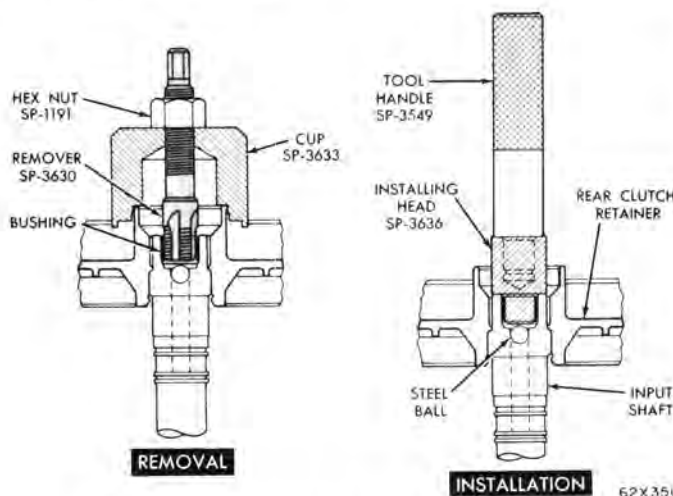

Fig. 101—Replacing Input Shaft Bushing
(1) Clamp the input shaft in a vise with soft jaws, being careful not to clamp on the seal ring lands or bearing journals.
(2) Assemble the remover Tool SP-3630, the cup Tool SP-3633, and the hex nut Tool SP-1191 (Fig. 101).
(3) With the cup held firmly against the clutch piston retainer, thread the remover into the bushing as far as possible by hand.
(4) Using a wrench, screw the remover into the bushing 3 to 4 additional turns to firmly engage the threads in the bushing.
(5) Turn the hex nut down against the cup to pull the bushing from the input shaft.
(6) Thoroughly clean the input shaft to remove the chips made by the remover threads. Make certain the small lubrication hole next to the ball in the end of the shaft is not plugged with chips. Be sure no chips are lodged next to the steel ball.
(7) Slide a new bushing on the installing head Tool SP-3636, and start them in the bore of the input shaft.
(8) Stand the input shaft upright on a clean smooth surface and install handle Tool SP-3549 in the installing head (Fig. 101). Drive the bushing into the shaft until the tool bottoms.
(9) Thoroughly clean the input shaft and clutch piston retainer before assembly and installation.